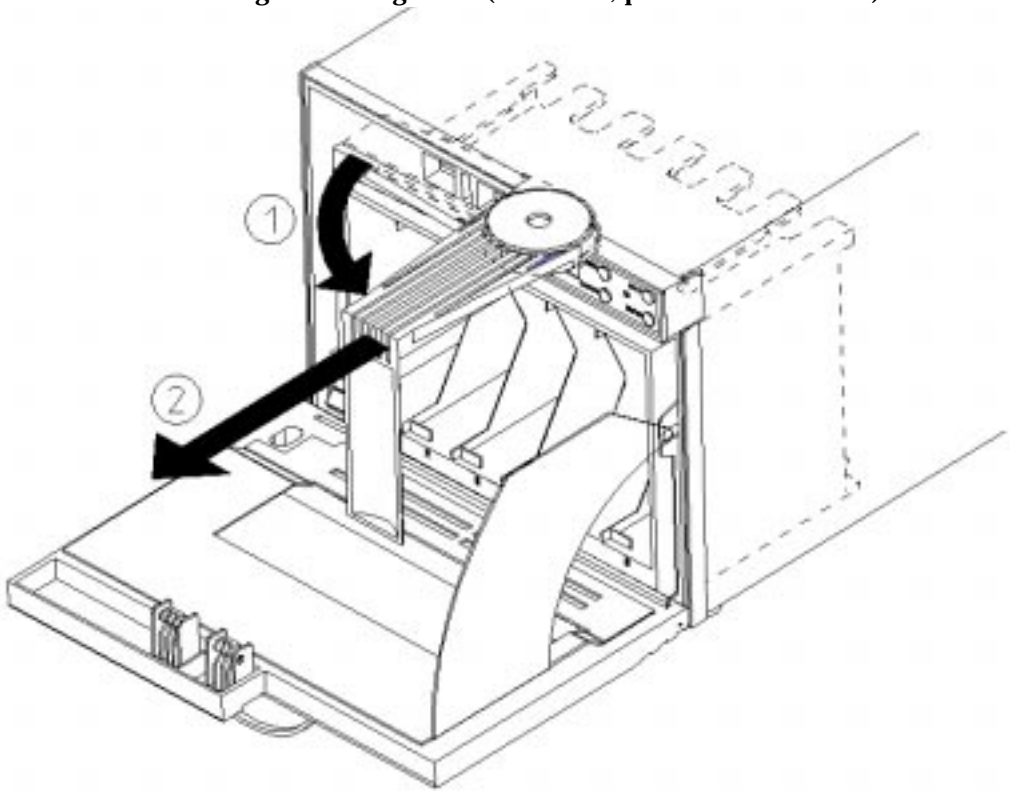

FIGURE 3-1 Removing the Magazine
2. Pull the magazine straight out (FIGURE 3-1, part no. F370-3422-01).
3. With the magazine handle facing out the front of the Autoloader, slide the magazine into the Autoloader until it “clicks” into place (FIGURE 3-1 on page 3-3).